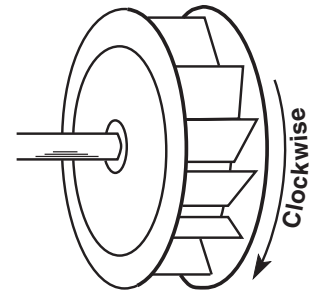

Figure 8
fans have clockwise wheel rotation when viewed from top of fan). Rotation should be clockwise as shown in Figure 8 and correspond to the rotation decal on the unit.
3. Start the fan and shut it off immediately to check rotation of the wheel with directional arrow in the motor compartment, see Figure 8.
Unit running backwards	Correct as shown in Figure 8.